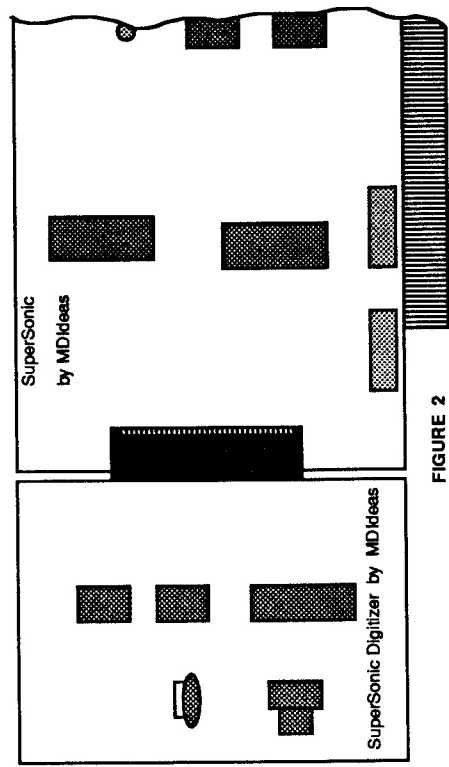

FIGURE 2
4. Remove the SuperSonic Digitizer board from its protective bag and place it next to the SuperSonic card with the component side up (Figure 1). Carefully slide the SuperSonic Digitizer board onto the Expansion Connector located on the SuperSonic stereo card. Push the cards together until they are fully seated (Figure 2).